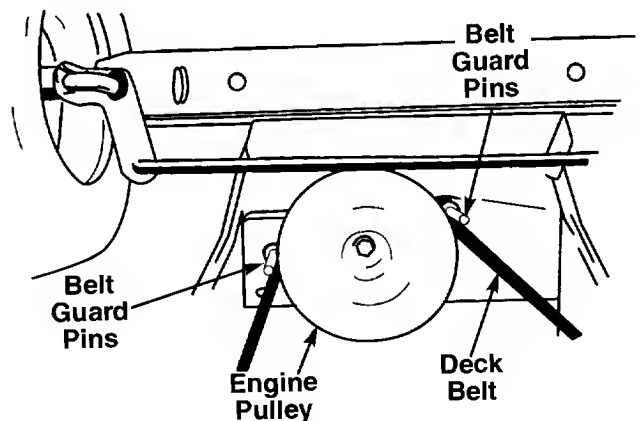

FIGURE 15.
2. Remove the two belt guard pins from the engine pulley belt guard. See figure 15.
NOTE: Make certain belt guard pins are reassembled as shown in figure 15.
NOTE: Figures 15, 18 and 19 are shown with the unit tipped up for clarity. It is not necessary to tip the unit to remove the belts.